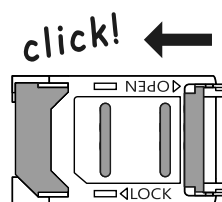

Fig. 42
4. Slide the SIM holder back to the left until it 'clicks', see **Fig.42**.